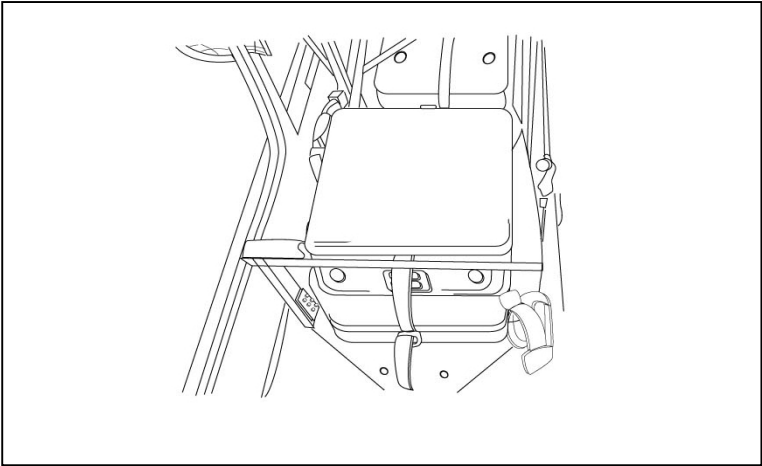

Figure 3-2-2: Collimator Stowage Location
- b. **Collimator.** The collimator is stowed and strapped in its protective case under the crew commander's seat (see Figure 3-2-2);